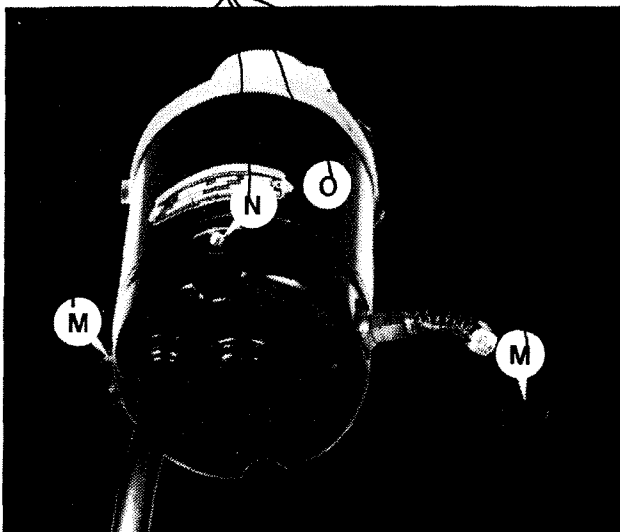

Figure 3.48 - Power Feed Motor and Brushes
13. Remove the motor brushes located under caps "M", Figure 3.48 .
9. Remount motor "O" to the power feed housing using two screws "N", Figure 3.48 .